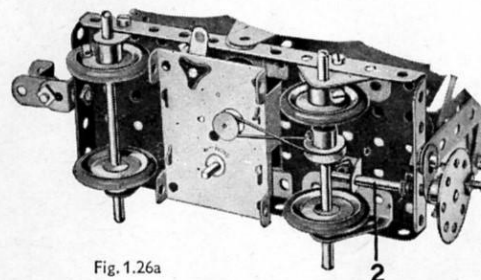

Fig.1.26a
Each of the Bolts (1) is lock-nutted. A piece of Cord is fastened to the Rod (2) (Fig. 1.26a) wrapped round it two or three times, and then is taken through the hole in the Flanged Plate above the Rod and secured to the Angle Bracket (3). By turning the Bush Wheel the container is tipped sideways.